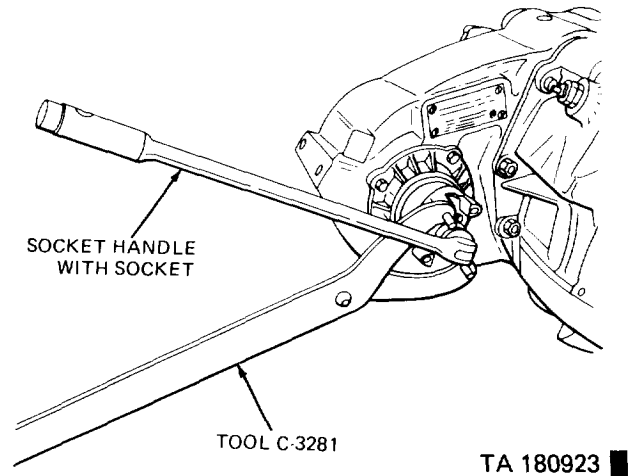

Figure 17-2. Loosening Front Output Shaft Yoke Nut.
(2) Using holding tool C-3281 and a 1-5/16 inch socket with a suitable handle, loosen the rear output shaft yoke nut.
(3) Using holding tool C-3281 and a socket with a suitable handle, remove the front output shaft yoke nut (Figure 17-2). Remove the retainer. Discard the gasket.